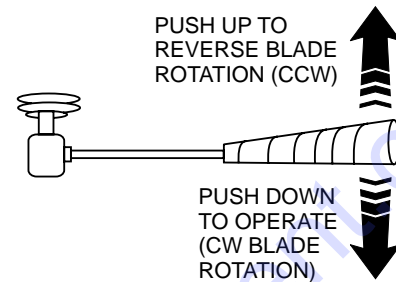
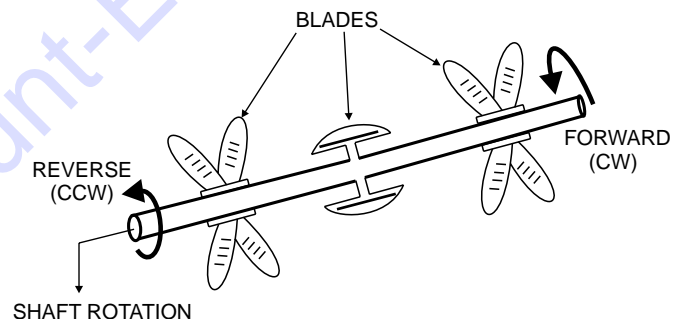

Figure 32. Hopper Remixer Control Lever
Figure 33. Hopper Remixer Blade (Rotation)
7. Push the **hopper remixer control lever** downward (Figure 32). The hopper remixer control lever is located to the left of the hydraulic temperature gauge.
8. Observe that the blades (Figure 33) inside the hopper are rotating in a clockwise direction (forward). To make the blades rotate in a counterclockwise direction (reverse), push the hopper remixer control lever **upward** (Figure 32).